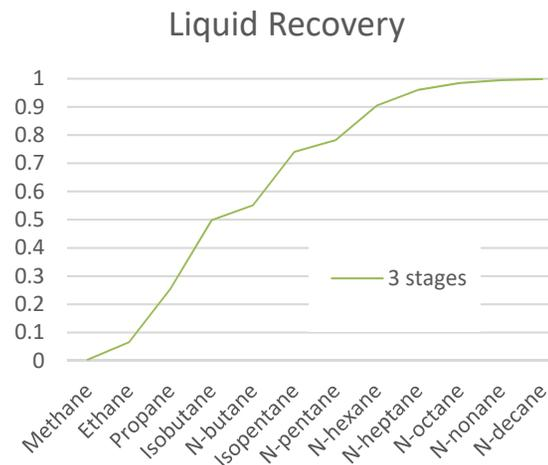

FIGURE1
3. Compare the liquid recovery at the end of the separation train for 1, 2 and 3 stages. Create a plot like Figure 1 for each case